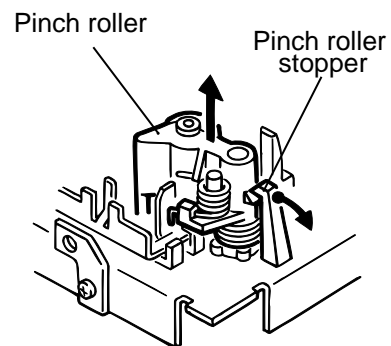

Fig.3
1. Pull out the pinch roller by opening the pinch roller stopper outward to unlock .(Fig.3)